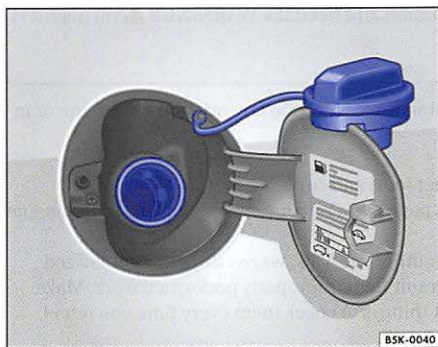

Fig. 148 Fuel tank cap placed on the open fuel filler flap.
- Unscrew tank cap counter-clockwise and remove and place on the top of the fuel filler flap ⇒ fig. 148.